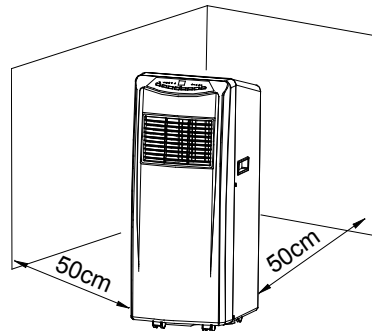

Fig.1
- Place the air conditioner at least 50cm away from any wall, curtains or heat sources to ensure adequate air circulation (Fig.1).